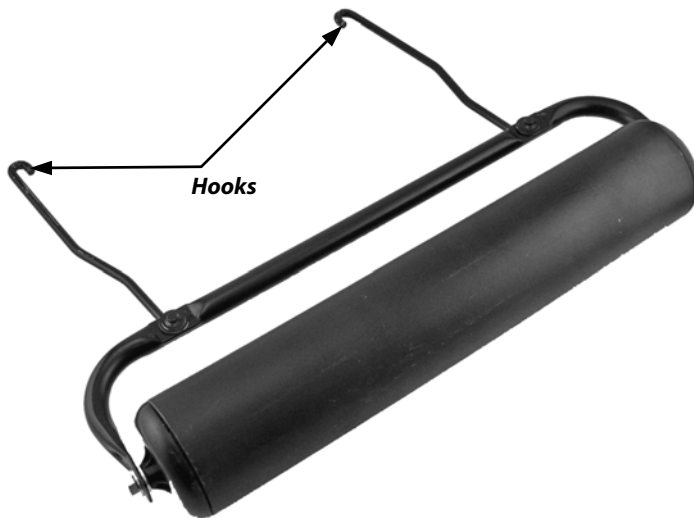
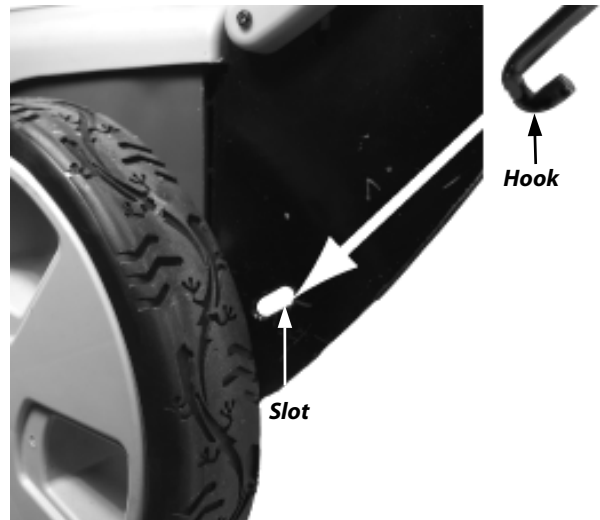

Figure 1
Figure 2
The Striper Roller (**Figure 1**) easily attaches with Hooks into pre-formed Slots (one each side) at the rear of the NEUTON Mower (**Figure 2**). You can use either the Bagger attachment (recommended) or the Mulching Plug (but not the Side Discharge Chute) with the Striper Roller.
3. Insert the Hooks into the Slots provided at the rear of the Mower (**Figure 2** on the previous page).